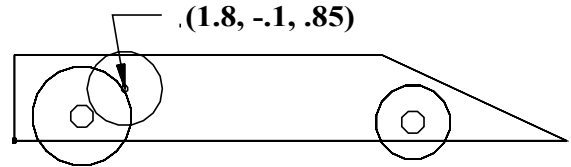

FIG. 15
Step 10. In the Side View, move cursor to the center of the motor, coordinates **(1.8, -.1, .85)** and click for the center of the motor shaft, **Fig. 15**.